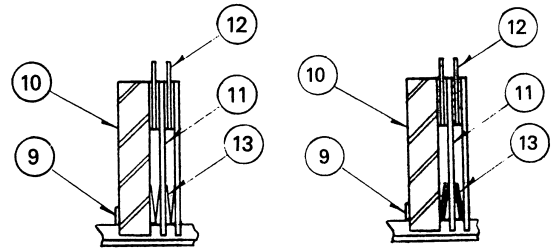

FIGURE 6
- 2) Install new friction disc (12) and two separator springs (13) as shown in Figure 6 or 7.
- 3) Install separator disc (11) against separator springs.